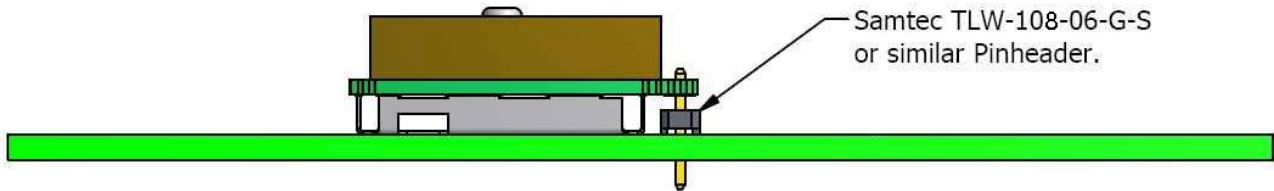

Figure 5: Side view of the pin header assembly for the PAM-7Q module.
- Solder the pin header to the module in such way that the pins are as short as possible on the antenna side of the PAM-7Q module (see *Figure 5*).